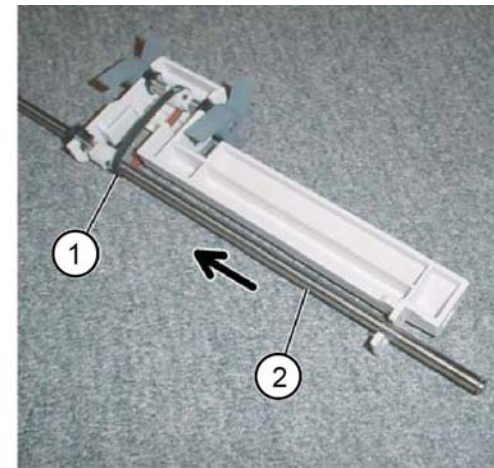

Figure 7 Shaft assembly removal
9. Remove the shaft assembly, Figure 7:
- a. Remove the paddle belt (1) from the pulley.
- b. Remove the shaft assembly (2) in the direction of the arrow.